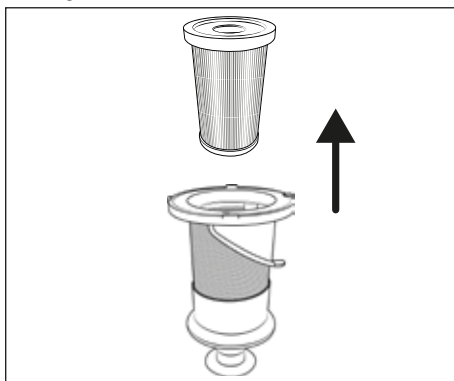

Fig. 20
- 3) Remove the EPA filter **5** from the stainless steel filter **6** by reaching into the opening of the EPA filter **5** and pulling it out of the stainless steel filter **6** (see Fig. 20).